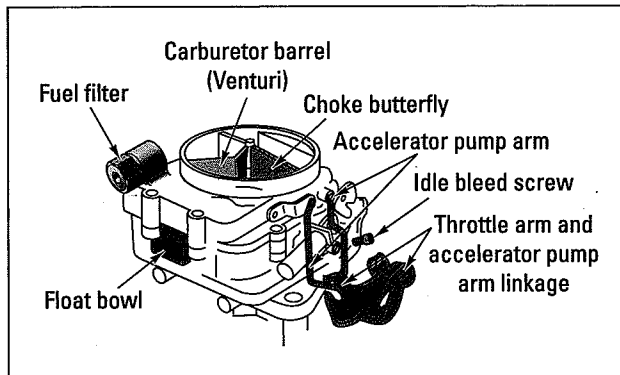

Figure 21-1:
2. **Remove the air cleaner (find instructions in Chapter 6) and look into the carburetor barrel, as shown in Figure 21-1.**